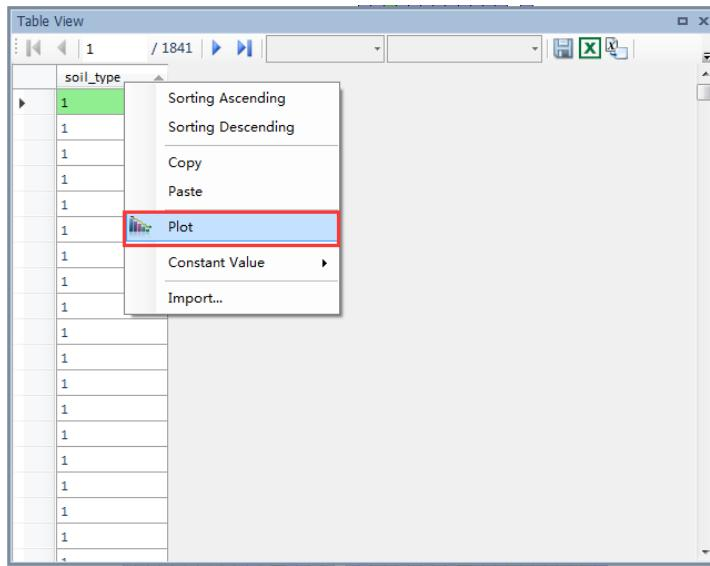

Figure 5-10. Plot parameter values
- 11) Right click the column title, and select Plot from the context menu (Figure 5-10):